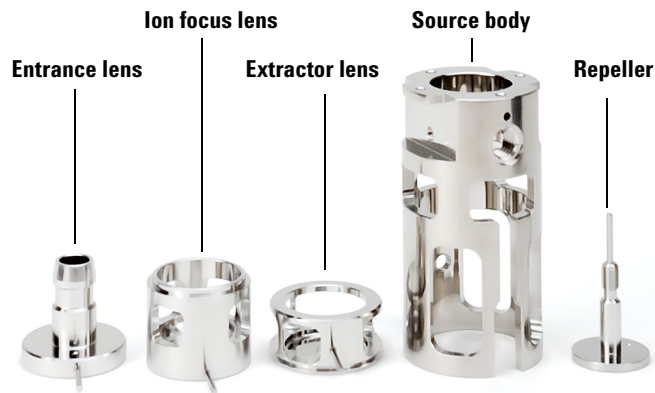

Figure 23 Extractor EI Source parts to be cleaned
- 2 Collect the following parts to be cleaned if you are cleaning a high sensitivity extractor EI ion source: (Figure 23)